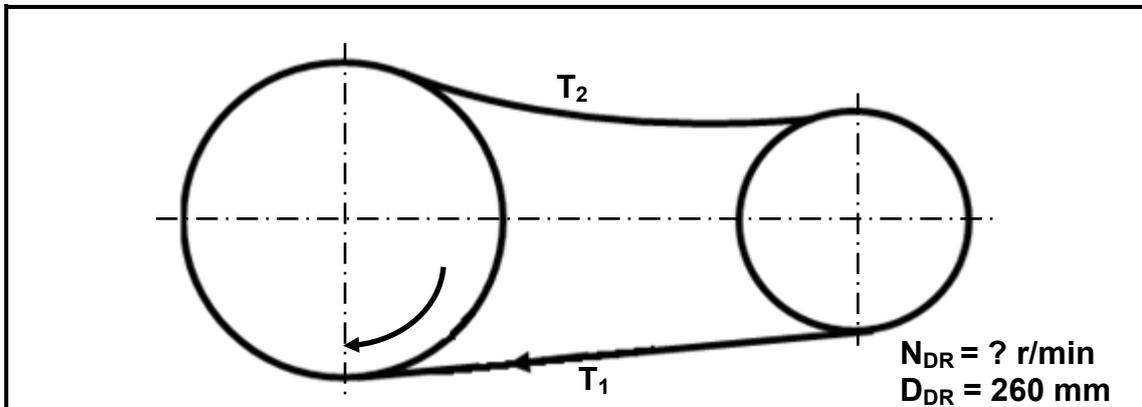

FIGURE 9.2
9.2 FIGURE 9.2 below shows a belt drive system with a 260 mm driver pulley. The belt speed of the system is $32 \text{ m}\cdot\text{s}^{-1}$. The tensile force in the slack side is 140 N and the ratio between the force in the tight side and the force in the slack side is 2,5.